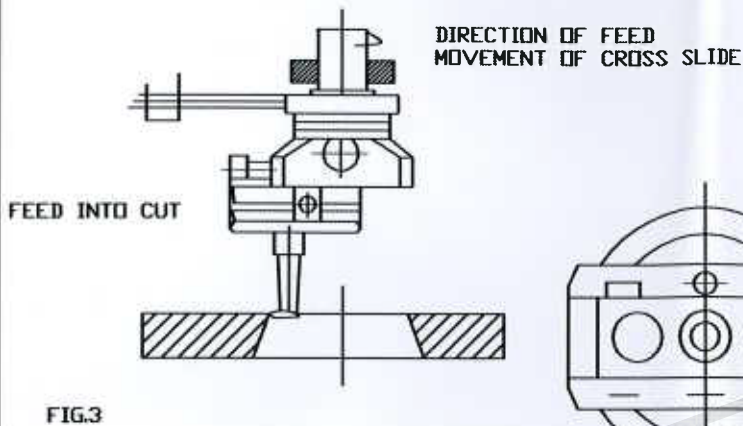
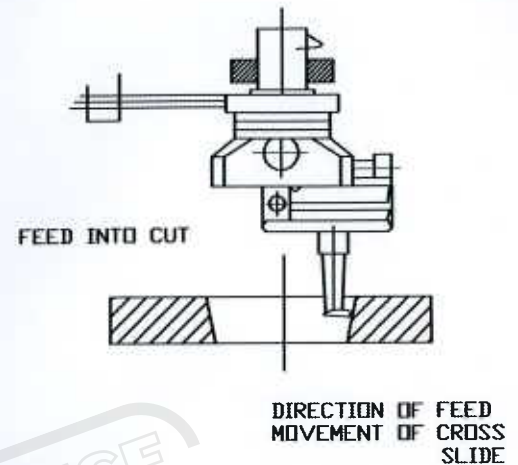

FIG.3
FIG.4
In case of spindle rotation in clockwise direction, the feed movement of the tool slide (5) can operate in one direction only (see Fig.3). Despite this, it is possible to bore expanding or contracting taper bores. The tool being clamped in the direction of cross feed to the tool slide, expanding taper is produced. If the same tool is clamped in the opposite direction to the direction of cross feed to tool slide, contracting taper will be produced. When clamping the tool it is necessary to see it that the tool point is set in a plane passing through the axis of holes for bars and holders (7) (see Fig.4). Otherwise, the taper bore will not be accurate.
- 1) the tool has to be clamped according to instruction given in item b) and set to the starting diameter of boring with the aid of the dial (4).
- 4) the stop has to be set according to Fig 3 and secured.
- 5) the clutch (15) has to be thrown - in and the clutch setting screw (14) completely screwed-in. Thereby, clutch disengagement in case of an overload is avoided. For this reason, however, increased attention has to be paid when working.
- 6) the holding-down rod (6) has to be slid in the hole in the braking ring (1) and lean against the steady stop provided on the machine.
- 7) now, start the machine. Simultaneously with the spindle feed movement the tool slide (5) also moves : thus producing the required taper bore.
- 8) the boring operation being completed, the holding-down rod (6) has to be slid out, the boring head returned to its starting position and by means of the stop (10) and gauge block or by means of the graduated dial (4) the next cut has to be set. This procedure is repeated according to the need. External tapers can be turned in a similar way.